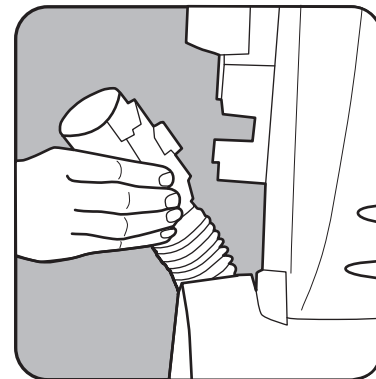

Fig. 1
- Squeeze the tabs on both sides of the quick clean-out port and pull away from the vacuum (Fig. 1)